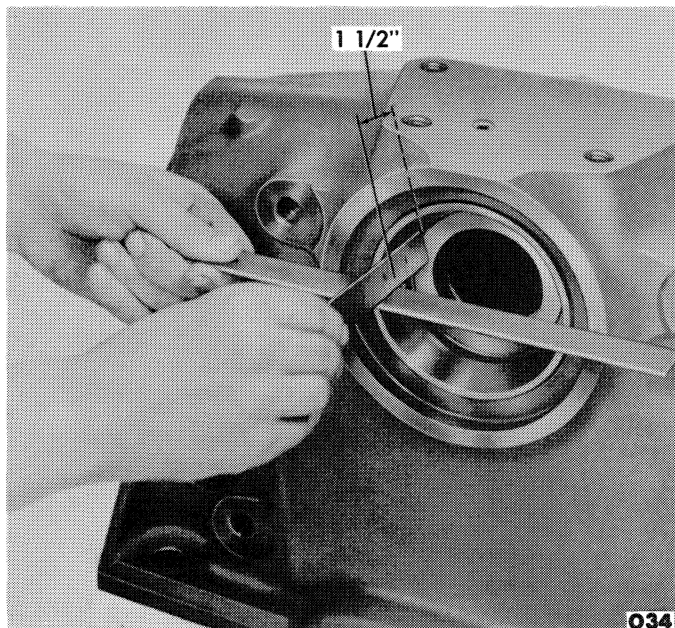

Figure 19—Positioning Oil Seal
2. Insert a new oil seal through the lower bearing cup in the pinion shaft bore. Use a hammer and wood block to position the seal. There must be 1.48" clearance between the bottom of the seal and the machined face of the shaft bore. Seal positioning is best accomplished by laying a straight edge across the face of the bore, as shown in Figure 19, and using a ruler to measure